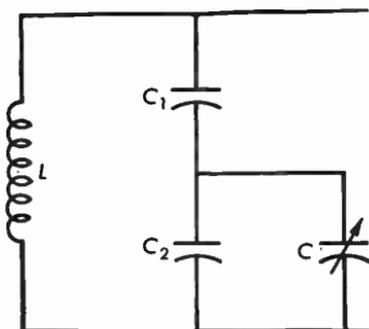

Fig. 8.01 Tank circuit with bandspread capacitor.
8.01 In the tuning circuit of Figure 8.01, $C_1 = 50$ micromicrofarads, $C_2 = 25$ micromicrofarads, $C = 10$ to 100 micromicrofarads, $L = 50$ microhenries.